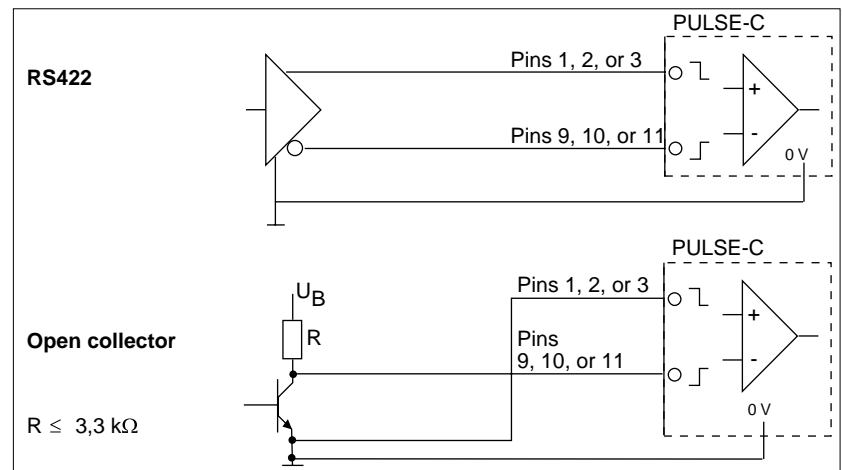

Fig. 4.28 Circuit of the signal inputs, L: Cable length
Fig. 4.28 shows a typical input circuit for the signal inputs PULSE (PV), DIR (PR), and ENABLE. Up to 10 inputs of a PULSE-C module can be connected to a single RS-422-C transmitter output.